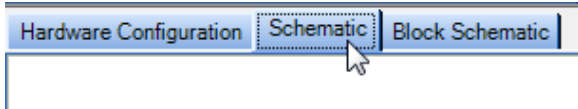

Figure 20. Schematic Tab
1. Click the **Schematic** tab near the top of the window (see Figure 20).